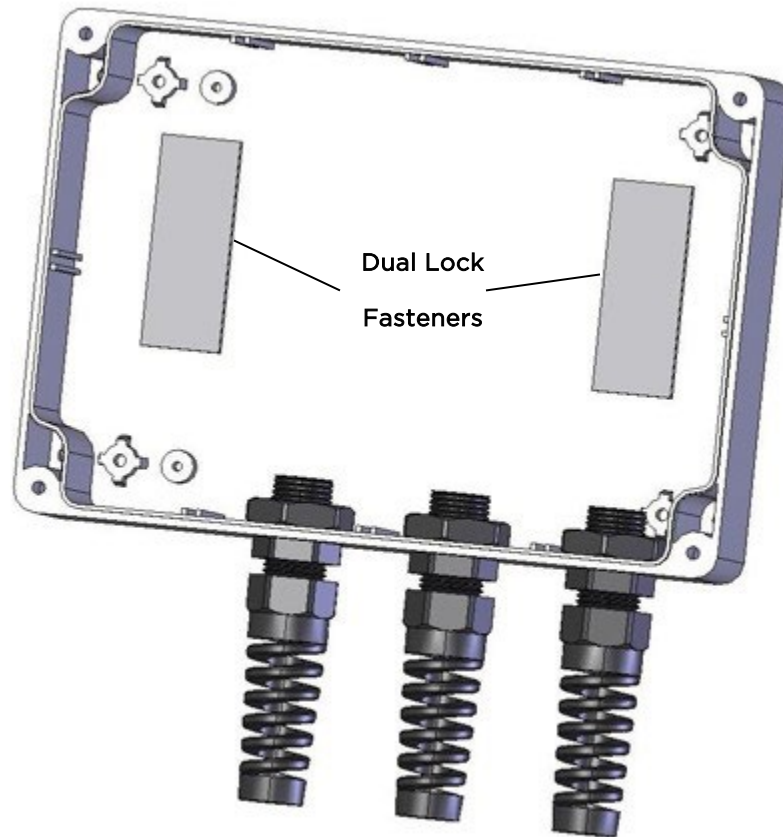

Figure 3.Placement of Dual Lock Fasteners to Mount AIM Module
- See Figure 3. The figure illustrates the strain reliefs installed on the bottom edge of the enclosure. The strain reliefs and antenna connections may be placed anywhere that still permits cable connection and installation of the module. Using the 1" x 2" Dual Lock Reclosable Fasteners (like Velcro), mount the AIM inside the enclosure allowing room for cable entry and, where required, installation of an external or remote external antenna. Adhesive on one side of the fasteners must adhere to the AIM module, and the other side to the enclosure. Do not place the fasteners over the AIM serial number.